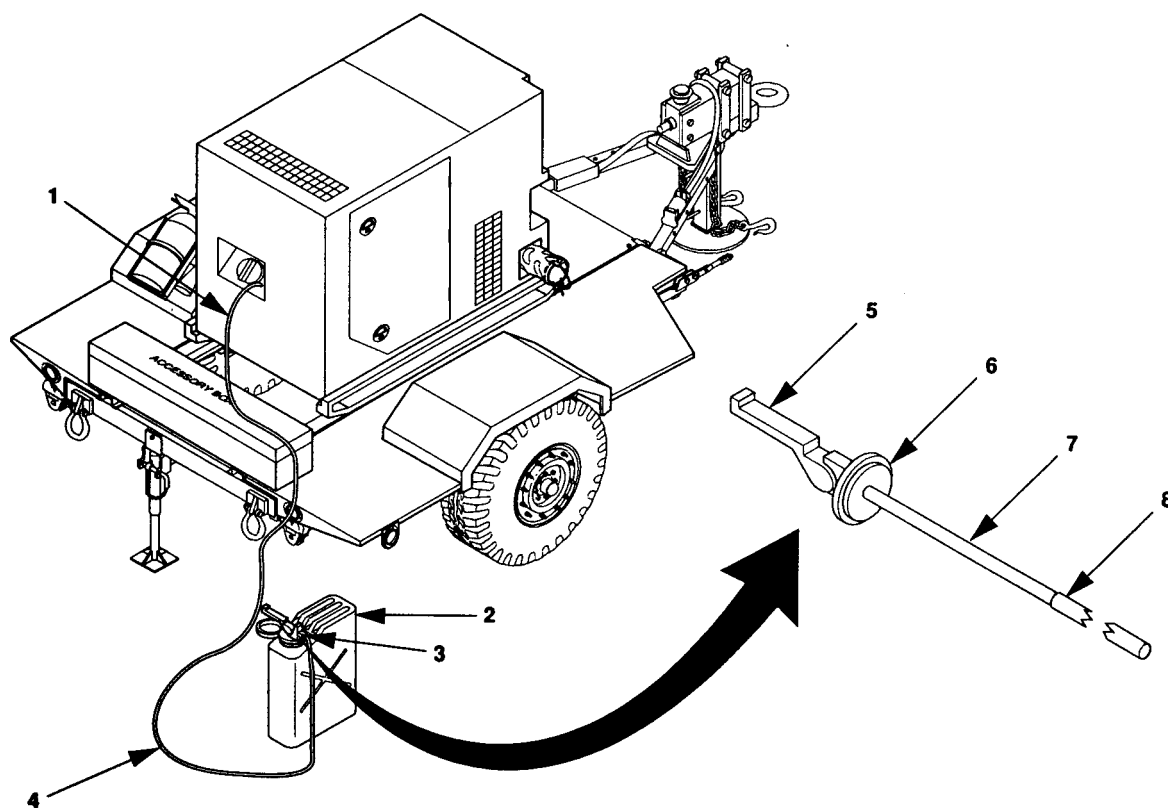

Figure 2-16. Disconnect Auxiliary Fuel (Typical).
- a. Disconnect the auxiliary fuel hose (4, figure 2-16) from the generator set external fuel supply connection (1). Elevate the free end of the auxiliary fuel hose to drain fuel back into the external fuel source (2). Place free end of auxiliary fuel hose on a clean surface.
- b. Disconnect auxiliary fuel hose (4) from fitting on container adapter (3).
- d. Release the container adapter from the external fuel source by lifting the handle of the clamp (5). Remove the container adapter from the external fuel source. Close the external fuel source and load onto appropriate transportation.